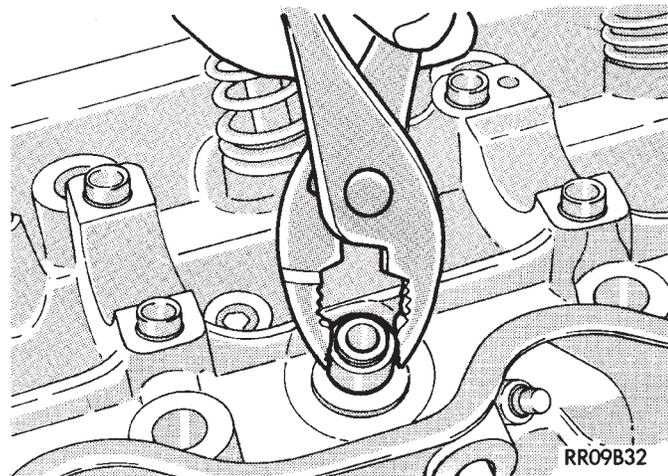

Fig. 18 Remove Valve Stem Seals
- (2) Remove valve stem seals with suitable tool (Fig. 18). Do not reuse valve stem seals.